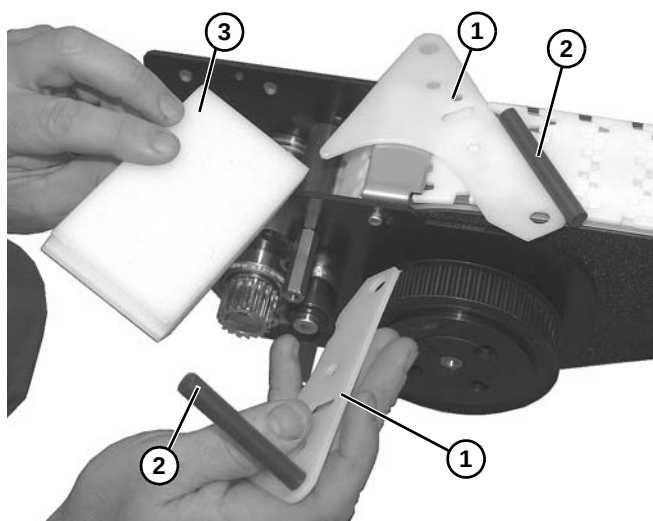

Figure 110
11. Disassemble side guide plates (**Figure 110, item 1**), wear rods (**Figure 110, item 2**), and wear bar (**Figure 110, item 3**). Replace worn components.